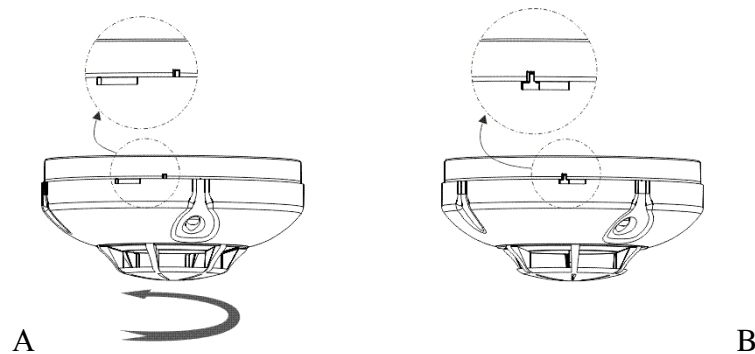

Figure 4
For installing the detector body, place it onto the base as shown in Figure 4 (A) and rotate clockwise until reaching into the guiding grooves. Then rotate it until rest as shown in Figure 4 (B).